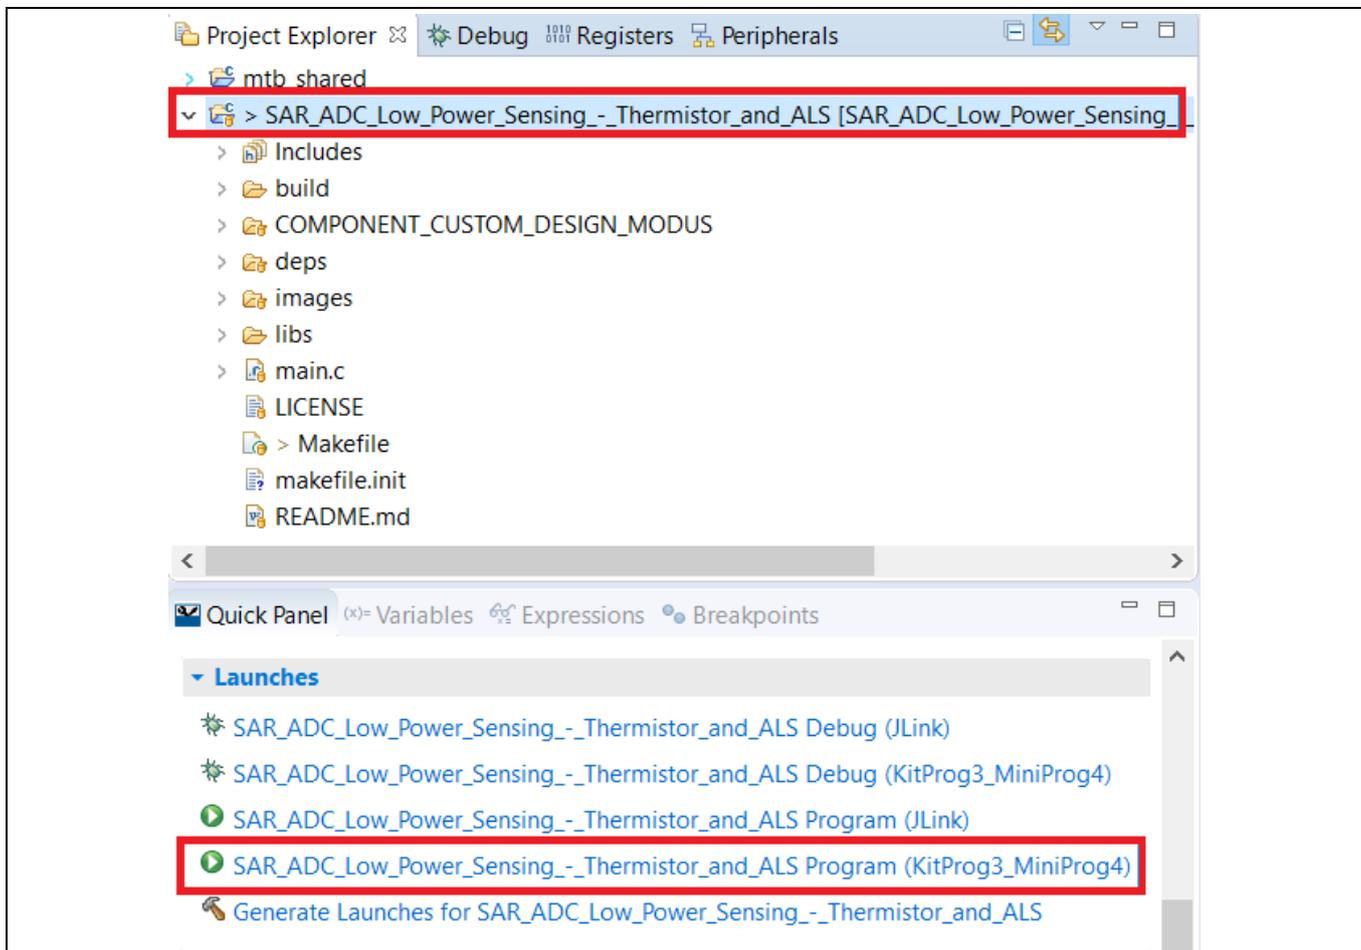

Figure 10 Build and program the code example
3. To build and program a PSoC™ 6 MCU application, in the Project Explorer, select <App_Name> project. In the Quick Panel, scroll to the **Launches** section and click the **<App_Name> Program (KitProg3_MiniProg4)** configuration as shown in Figure 10.